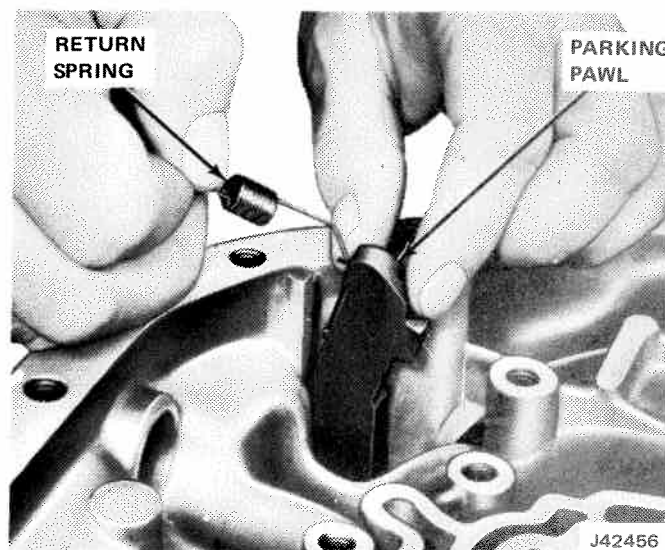

Fig. 7-26 Removing-Installing Return Spring From Parking Brake Pawl
(6) Remove parking pawl return spring from pawl and transmission case, as shown in fig. 7-26.